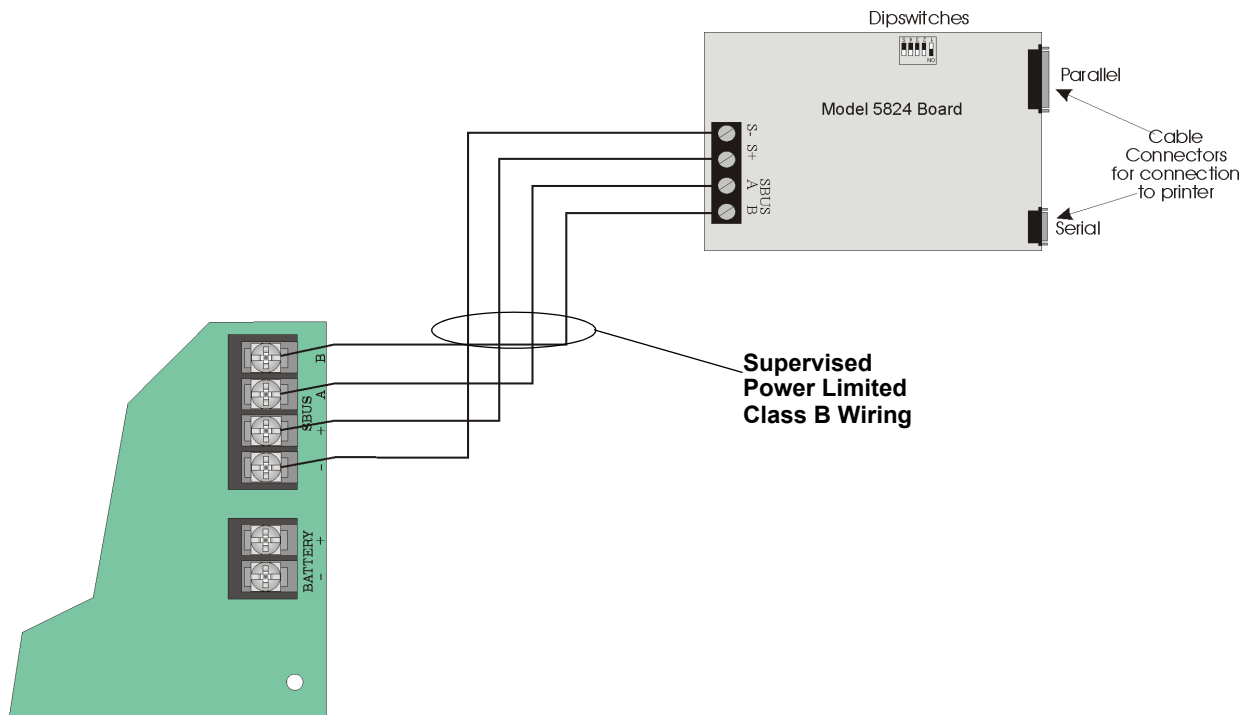

Figure 4-14 5824 Connection to the Panel
2. Connect the 5824 to the panel as shown in Figure 4-14.